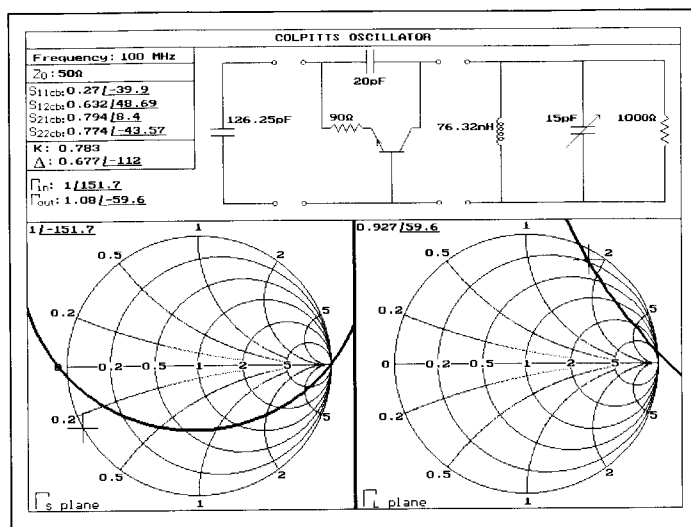

Figure 7. Optimized Colpitts oscillator design.
The active device S parameters were calculated for these element values and found from Figure 7 and are given by:
Figure 7 also indicates that an inductor value of 76.3 nH was found to satisfy the condition  $|\Gamma_{in}| = 1$  and a capacitor value of 126 pF was found to satisfy the oscillation criteria of (1) to complete the design. Also displayed are a set of Smith charts which contain the input and output stability circles and locations of  $\Gamma_S$  and  $\Gamma_L$ . The element values can be changed directly on the circuit with an on screen editor. With each element value change a new set of S parameters is calculated, new values for  $L$  and  $C_2$  determined, stability circles redrawn, and reflection coefficients relocated on the Smith charts.